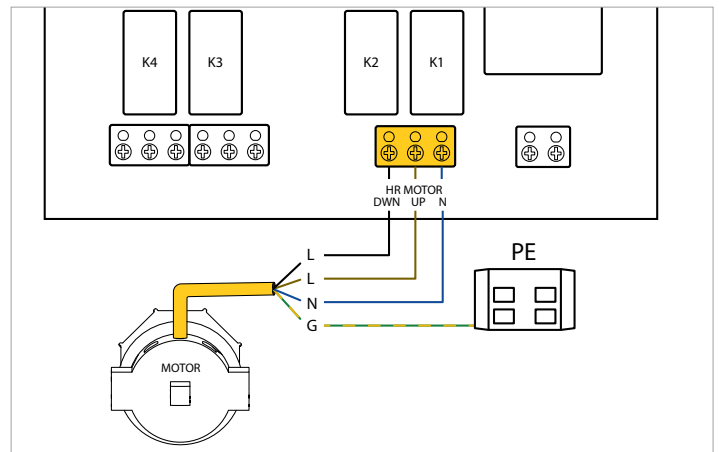

Fig. 6.4 Wire the motor to the PCB
- Connect the electrical wires from the motor to the remote control PCB according to figure 6.4